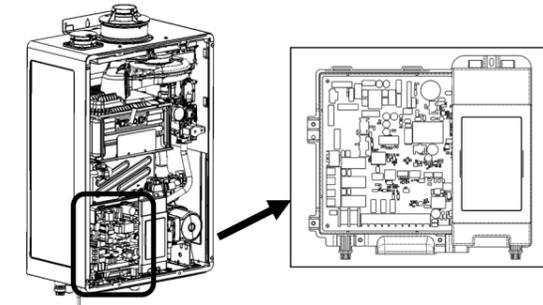

Figure 17: PC Board
4. Connect one end of the boiler air handler cable to the accessory port on the PC Board. Connect the other end of the cable to the **switch circuit board** accessory port (Figure 17).